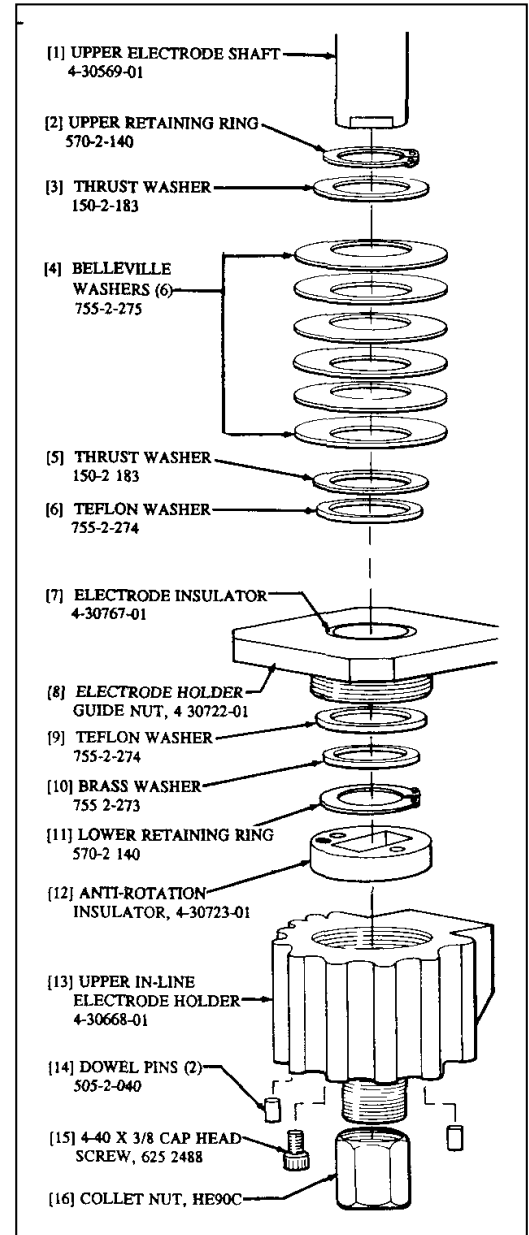

Figure 5-5. Upper In-line Electrode Holder Exploded View.
- 4 Reference Figure 5-5. Remove the ELECTRODE HOLDER COLLET NUT, item [16], from the UPPER IN-LINE ELECTRODE HOLDER, item [13].
- 1 Reference Figure 5-5. Remove the In-Line Electrode Holders parts by following the procedure outlined in Section 8.03. **DO NOT REMOVE THE UPPER RETAINING RING, ITEM [2], FROM THE UPPER ELECTRODE SHAFT, ITEM [1].**